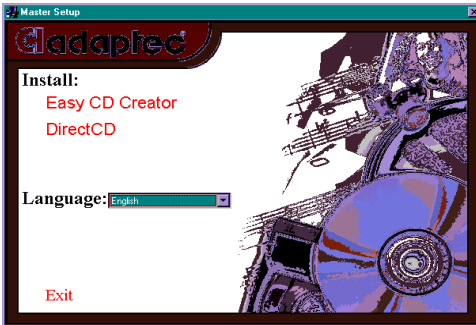

Figure 11. Adaptec Easy CD Creator/DirectCD Main Installation Panel
If the Autoplay function is enabled, the main installation panel (Figure 11) should appear on your desktop.
The system displays the Adaptec Easy CD Creator/DirectCD main installation panel (Figure 11).
3. **On the main installation panel (Figure 11), click the left mouse button on the name of the application program you wish to install.**